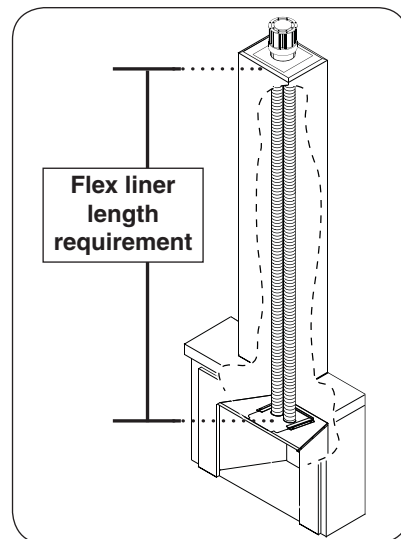

Fig. 24-2 Determine liner length
Important: Measure from the top of the chimney to the location that the top of the direct vent insert will rest when installed (see Fig. 24-2).
5. In conjunction with Step 4, route the flex liners from the top of the chimney down through the masonry opening (reference Fig. 24-2).